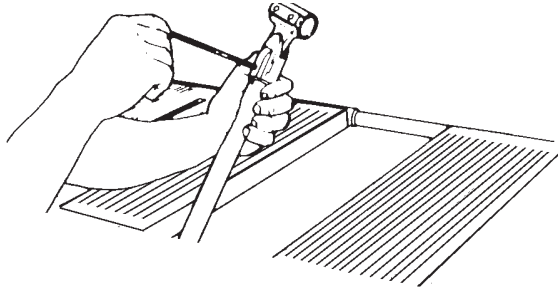

Figure 2
- a. Slide the connector tubes (2) through the worktable extrusions until they pass a lock screw. Finger tighten the knobs. DO NOT overtighten the knobs on the table extrusions.
- b. Complete your configuration by adding floating tables and telescoping legs. To use the telescoping legs, assemble the t-joint fitting (4) to the leg (3) and tighten with a 5/32" Allen wrench, see Figure 2.